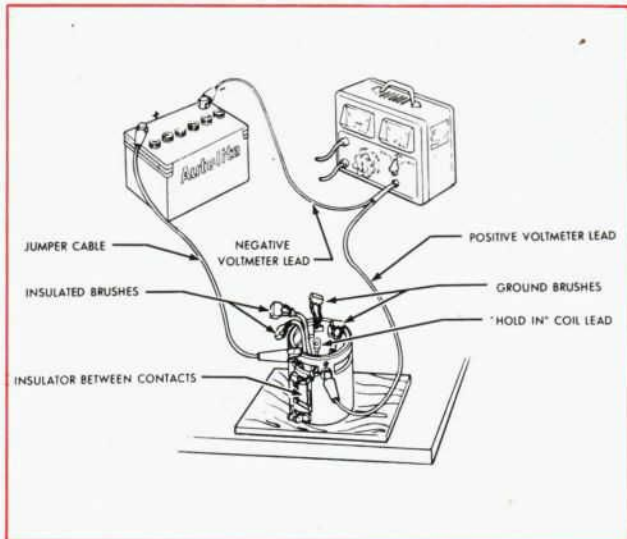

Figure 7—Field Coil Grounded Circuit Test
1. Insert an insulator (business card or its equivalent) between the switch contacts (Fig. 7).